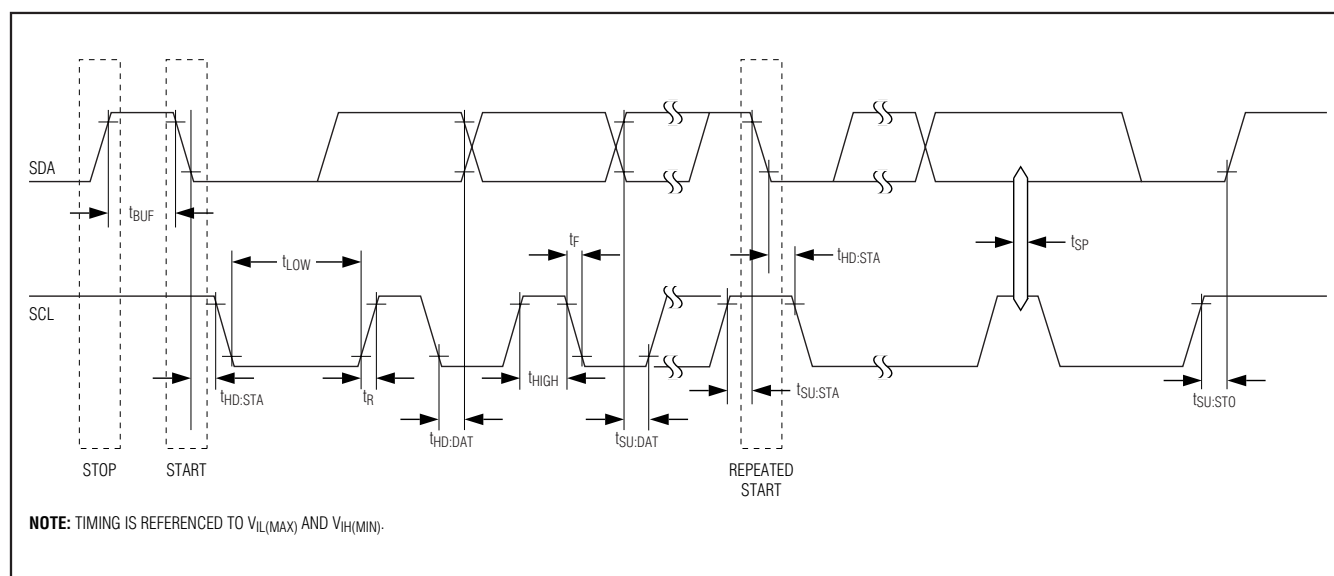

Figure 20. I2C Timing
**START condition:** A START condition is generated by the master to initiate a new data transfer with a slave. Transitioning SDA from high to low while SCL remains high generates a START condition. See Figure 20 for applicable timing.
**STOP condition:** A STOP condition is generated by the master to end a data transfer with a slave. Transitioning SDA from low to high while SCL remains high generates a STOP condition. See Figure 20 for applicable timing.
operations to identify a specific memory address to begin a data transfer. A repeated START condition is issued identically to a normal START condition. See Figure 20 for applicable timing.
**Bit write:** Transitions of SDA must occur during the low state of SCL. The data on SDA must remain valid and unchanged during the entire high pulse of SCL plus the setup and hold time requirements (Figure 20). Data is shifted into the device during the rising edge of the SCL.
**Bit read:** At the end a write operation, the master must release the SDA bus line for the proper amount of setup time (Figure 20) before the next rising edge of SCL during a bit read. The device shifts out each bit of data on SDA at the falling edge of the previous SCL pulse and the data bit is valid at the rising edge of the current SCL pulse. Remember that the master generates all SCL clock pulses, including when it is reading bits from the slave.
**Acknowledgement (ACK and NACK):** An acknowledgement (ACK) or not acknowledge (NACK) is always the ninth bit transmitted during a byte transfer. The device receiving data (the master during a read or the slave during a write operation) performs an ACK by transmitting a zero during the ninth bit. A device performs a NACK by transmitting a one during the 9th bit. Timing (Figure 20) for the ACK and NACK is identical to all other bit writes. An ACK is the acknowledgment that the device is properly receiving data. A NACK is used to terminate a read